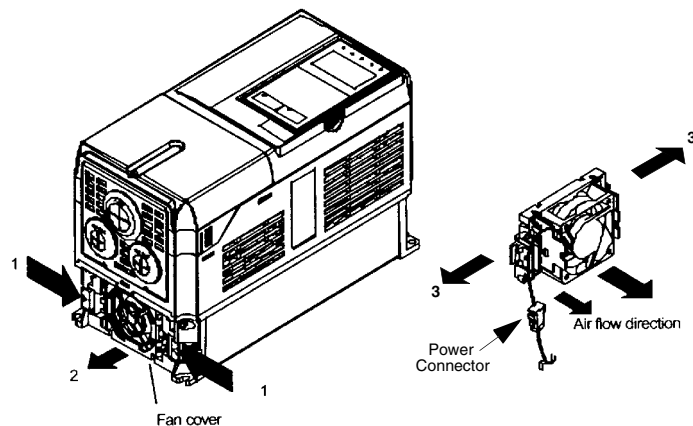

Fig 7.3 Cooling Fan Replacement Procedure
3. Pull out the cable connected to the fan from the fan cover and disconnect the power connector. See Figure 7.3.